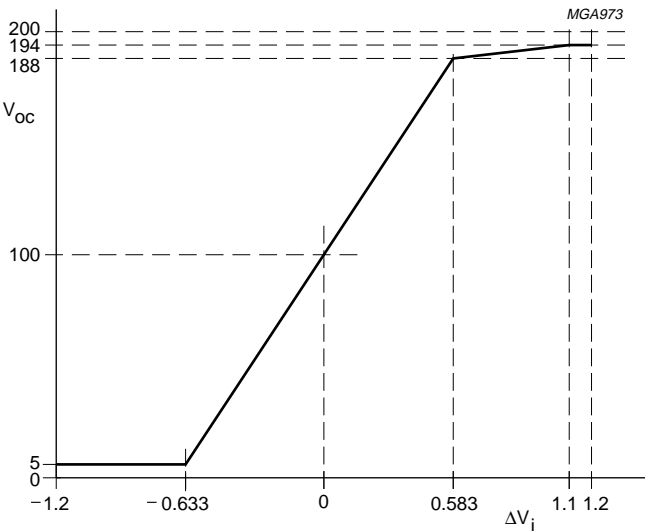

Fig.6 Typical low-frequency ($f < 1$ MHz) response of $\Delta V_{i1, 2, 3}$ to $V_{oc1, 2, 3}$.
1. See also Fig.6 for the typical low-frequency response of V_i to V_{oc} .